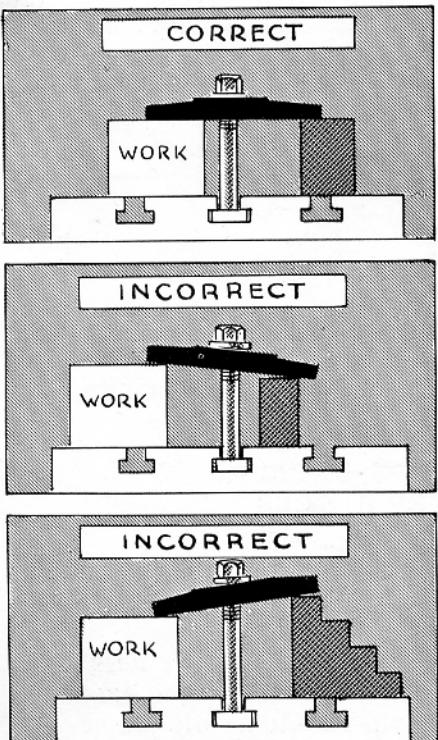

FIG. 166
4. Place the clamp over the bolt. Support one end of the clamp on the work and the other on the block. Check to see that the clamp is level and that the bolt is placed near the clamped surface. See Fig. 166 for the correct method of clamping.
- NOTE: Because of the location of the table slots and the size and shape of the work, it is not always possible to place the bolt in a position of maximum gripping power. The arrangement emphasized in Figure 166 should be duplicated whenever practicable.